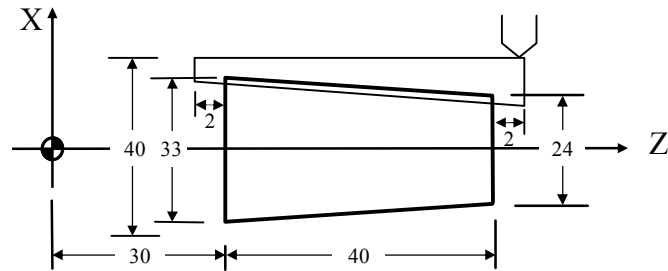

Fig.3-22 Tapered thread cutting
- X, Z : End point C in absolute coordinates (Fig. 3-22)
In Fig. 3-22, the cutting paths 1 and 4 are fast positioned by G00. The cutting along the paths 2 and 3 is executed at the feed-rate F. Whenever the start button (CYCST) is pressed in a block, the tool moves along the paths 1~2~3~4 to execute a cutting cycle.